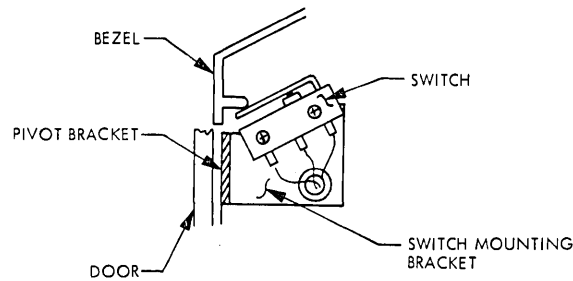

Figure 5-3. Door Open/Closed Switch Placement
- (1) Remove the PCBA as detailed in Paragraph 5.1.1.
- (2) Remove the plastic tie wraps on the wiring harness which connects the door open/closed switch to the 30-pin AMP connector (P2). Note approximate locations of the tie wraps.
- (3) Using an AMP extractor tool, remove the door open/closed pins from connector P2. Note color code and pin numbers.
- (4) Remove and retain the two mounting screws located on the switch. Refer to Figure 5-3 for location.
- (5) Remove the switch assembly by carefully pulling wires through grommets on the bracket and chassis.
- (1) Install the replacement switch on the bracket. (See Figure 5-3.)
- (2) Secure the switch with the two mounting screws, assuring that the switch lever is under the lip on the bezel.
- (3) Carefully route the connecting wires down through the grommets in the chassis and bracket.
- (4) Insert wire terminating pins in connector P2 according to pin numbers and color code noted during removal of the assembly.
- (5) Replace the tie wraps.
- (6) Check the operation of the switch by opening and closing the door and observing that the lever operates against the bezel.